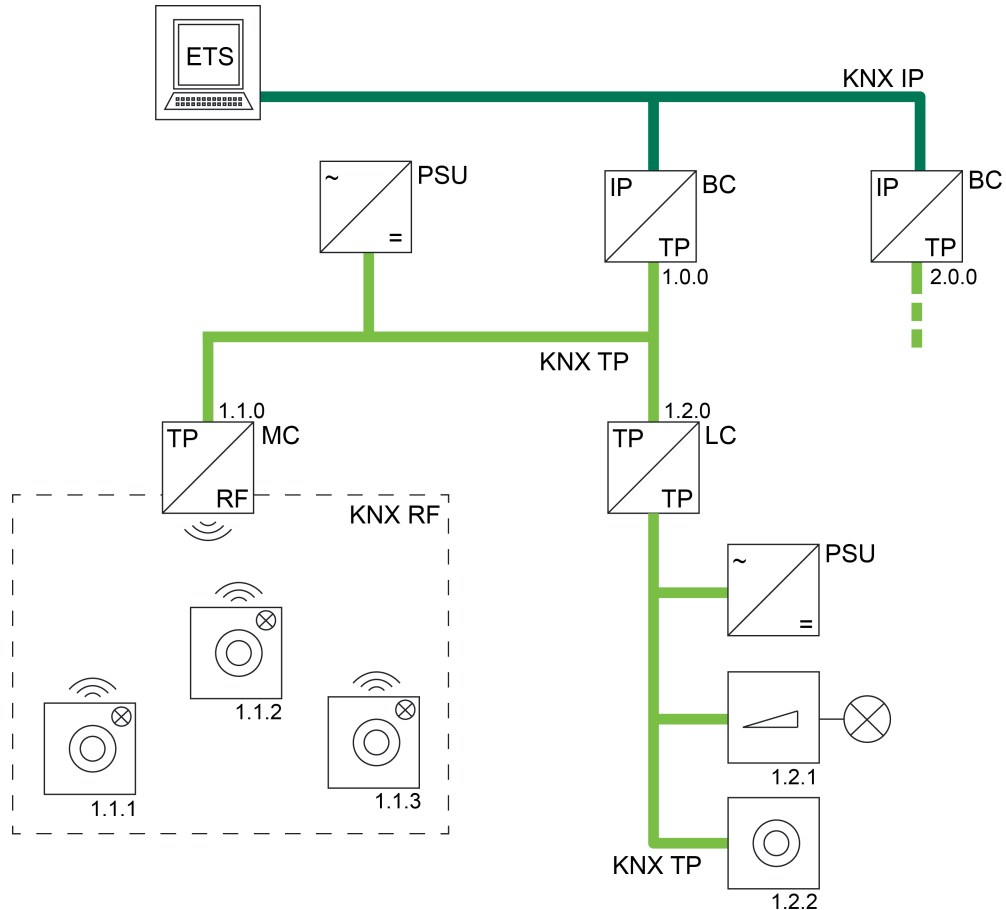

Figure 22: Example of a possible KNX topology with one KNX IP connection of the ETS (KNX/net IP)
- Use of a KNX IP data interface (KNX/net IP) (figure 22):